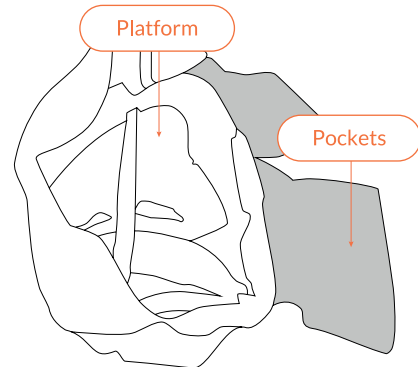

Fig 52 - Place rolled Platform in the bag
7. ALWAYS make sure that at least 2 people are spaced evenly around the platform to lift it back into the bag (Fig 52).